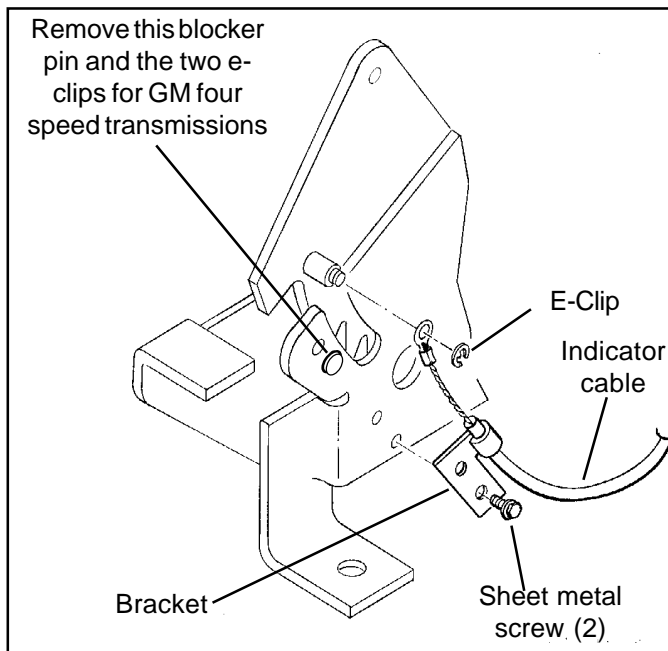

Figure 3
STEP 7. Just before the final installation of the shifter in the vehicle, attach the indicator cable to the side of the shifter as shown in **Figure 3**. The indicator cable bracket is secured to the shifter mechanism with two #6 x 3/4" sheet metal screws and the eyelet on the end of the indicator cable is secured to the cable pin by a supplied small e-clip.